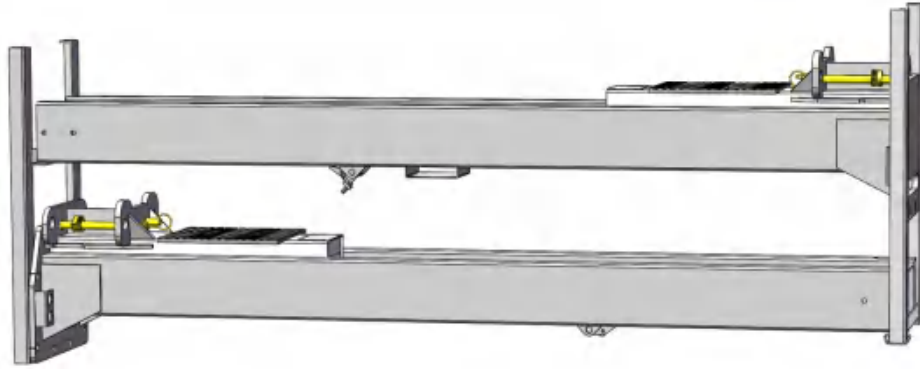

Fig. 12
3. Take out 2pcs outer column, then move them aside to the installation position. **(See Fig. 12)**